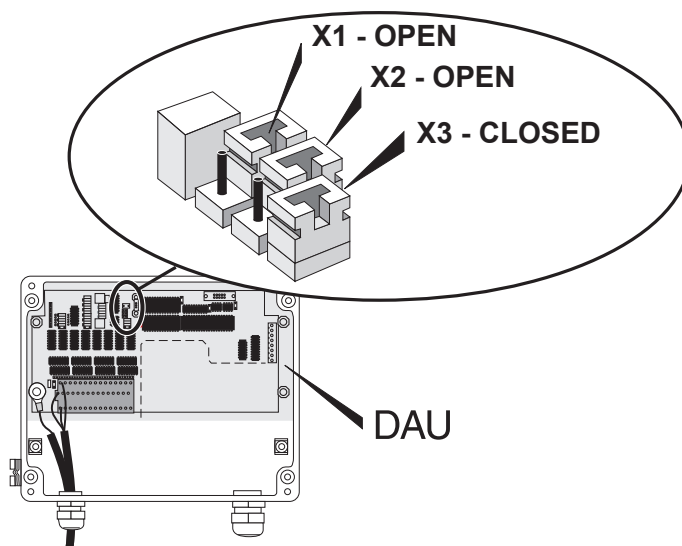

Figure 4-26. Jumper settings for temperature range  $-50$  to  $125^{\circ}\text{C}$
- 2 Set the **jumper X1, X2 and X3** on the DAU's circuit board in the correct positions for the desired measurement range. The jumpers are set according to Table 4-3. See also Figure 4-26. The default setting is from  $-50^{\circ}\text{C}$  to  $125^{\circ}\text{C}$  for the Pt 100 sensor.